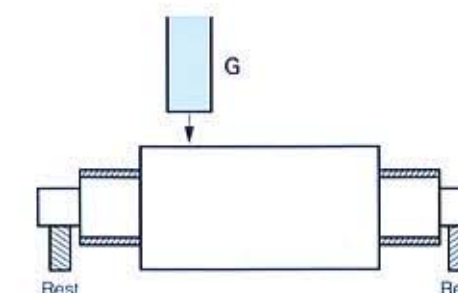

Fig. 3.33
- When the work on the raceway surface of the inner ring is over, grind the roll barrel surface. (**Fig. 3.33**)